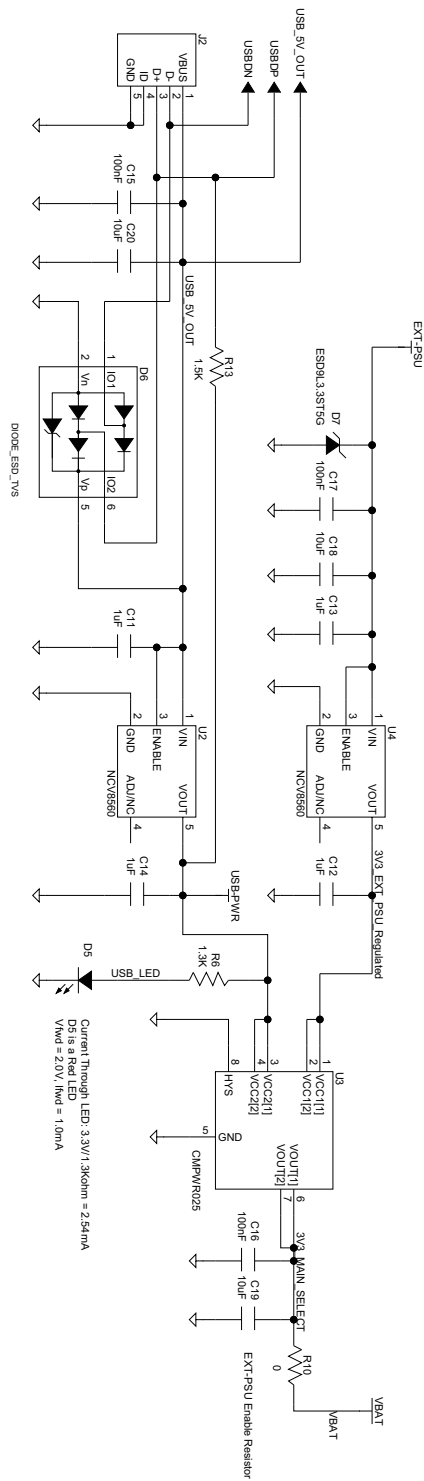

Figure 6: Power Supply Schematic
- Power supply schematic (Figure 6 on page 21)